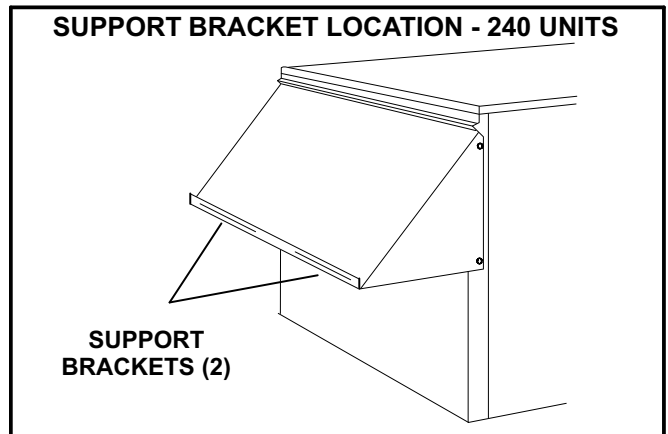
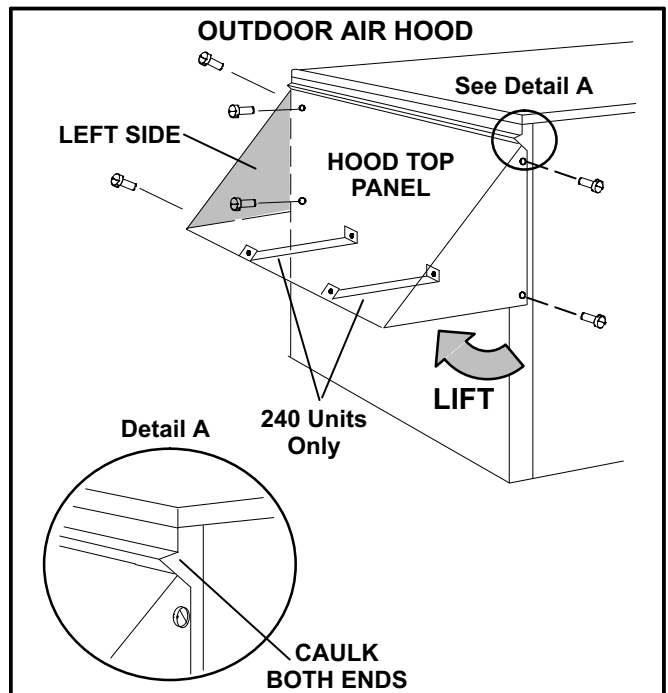

FIGURE 13
FIGURE 14
- 6- *240 Units Only* - Remove two support brackets from hood top panel flange. See figure 13. Install as shown in figure 14.